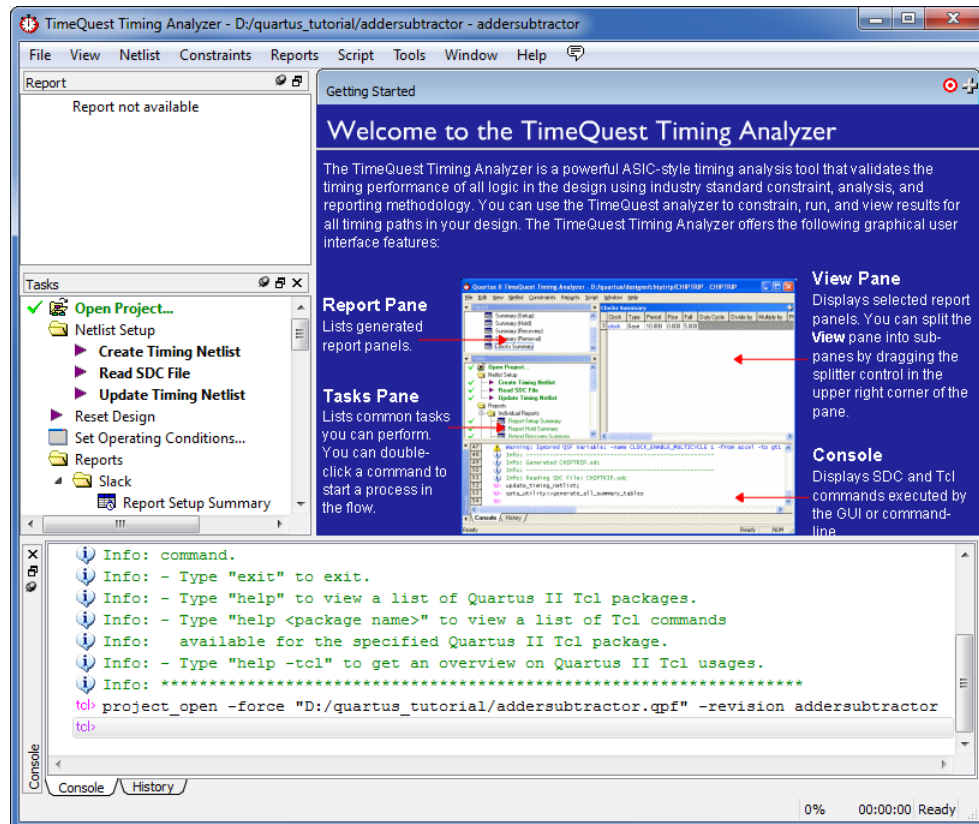
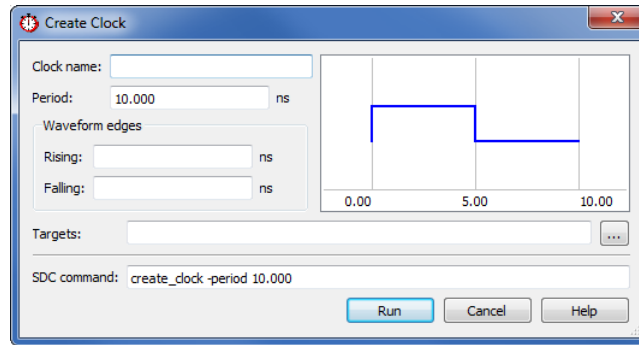
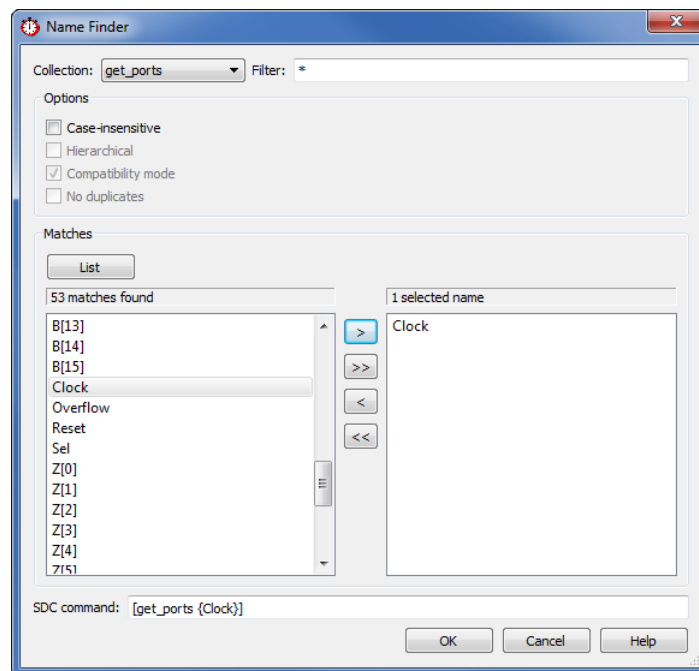
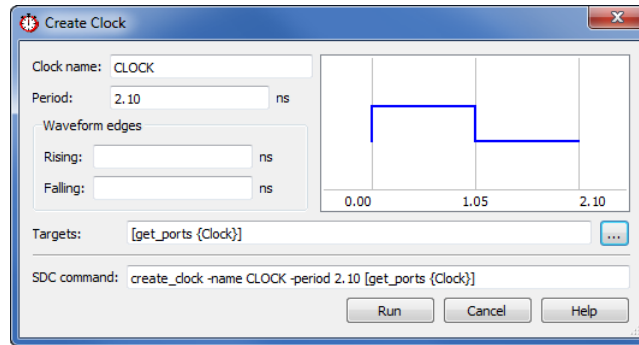

Figure 31: TimeQuest Timing Analyzer.
Figure 32: Create clock constraints.
Figure 33: Choose target clock.
Figure 34: Complete clock constraint.
1. Open TimeQuest Timing Analyzer by selecting **Tools > TimeQuest Timing Analyzer**, or by clicking the icon . Figure 31 shows the interface of TimeQuest Timing Analyzer. It is a very powerful tool for the designer to create, manage, and analyze timing constraints, and to quickly perform timing verification for their design. The compilation in Section 4 produced the f_{max} of 406.17 MHz, which translates to a minimum *period* of 2.46 ns. Suppose that we need a circuit that can operate at a clock frequency of 475 MHz. We can use the TimeQuest Timing Analyzer tool to create a new SDC (Synopsys Design Constraints) file containing the clock constraint.
In the TimeQuest Analyzer window, double click **Create Timing Netlist** under the **Tasks** heading to generate the timing netlist from database created after compilation. Then select **Constraints > Create Clock** from the menu to reach the dialog box in Figure 32. Specify a name for the clock you want to constrain. This name can be used to refer to this clock when creating other timing constraints. For this example, we will name the clock "CLOCK". As we want the circuit to operate at a clock frequency of 475 MHz, set the period to 2.10 ns in the **Period** field. To specify the actual clock this constraint is applied to, click on the ... button beside the **Targets** field in the **Create Clock** window to get the pop-up window in Figure 33.
Click on the list button in the middle left of the window to get a list of all the ports. Select **Clock** from the list of matches on the left and click on the > button to reach the display in Figure 33. This tells the TimeQuest Timing Analyzer to constrain the **Clock** port to the period you have specified. Notice in a larger design with many ports, we can enter the name of the port in the **Filter** field located in the top right of the window to reduce the number of matches in our search. Click **OK** to return to the dialog box in Figure 34.
In the SDC command field at the bottom of the dialog box in Figure 34, we can see the actual command that would be written into the SDC file. It creates a simple clock named `CLOCK` with a 2.10 ns period and associates this constraint with the port `Clock`. Click **Run** to return to the window in Figure 31. Select **Constraints > write SDC File** and save the file as *addersubtractor.out.sdc* in the project directory *quartus_tutorial*. Close the TimeQuest Timing Analyzer window to return to the Quartus® II main display.